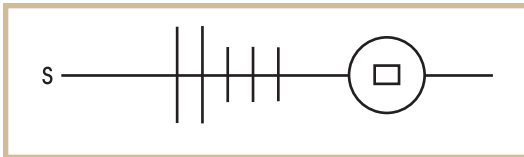

FIGURE A5—Use this schematic to answer **Question 18**.
18. How many phase conductors are installed between the switch and the light fixture shown in **Figure A5**?